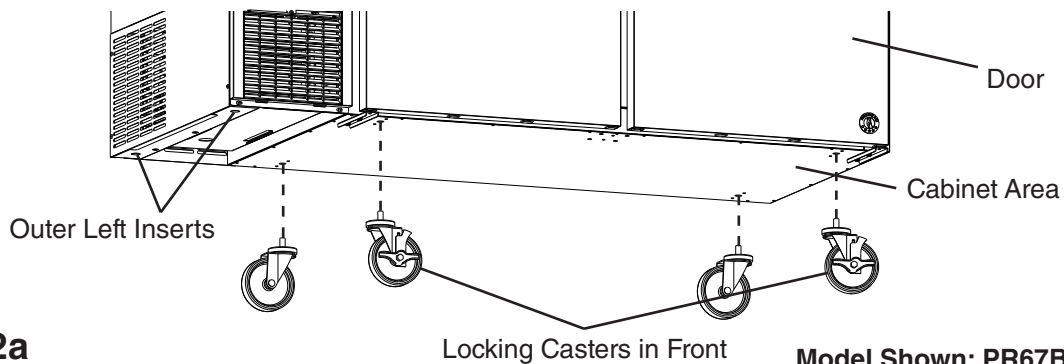

Fig. 2a
- b) **PR60B(-DX) and PR67B(-DX):** Attach the 4 casters under the cabinet area. See Fig. 2a. **WARNING! On PR60B(-DX) and PR67B(-DX) models, do not attach the casters under the compressor area in the outer left inserts.**